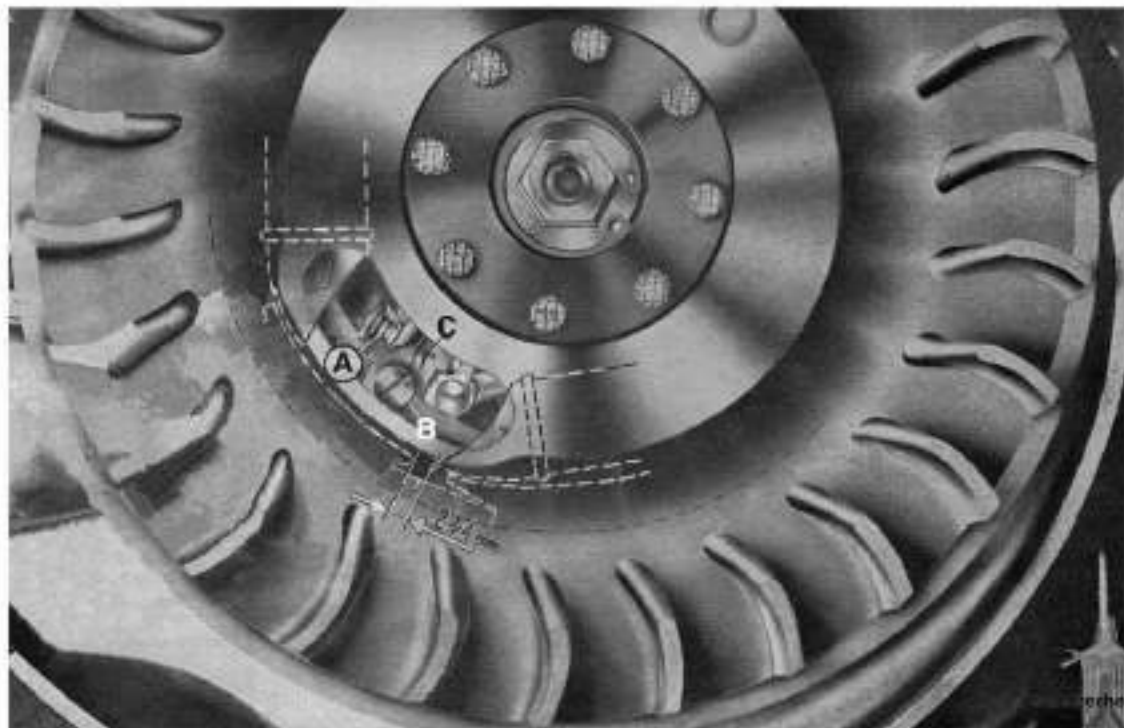

Fig. 16 - Operations for checking the «magnetic» timing of the wheel.
- 3) - Clean, and if necessary, register the contact breaker point (fig. 16). To avoid a faulty ignition or some other defects, **consult your Service - Station for this operation.**